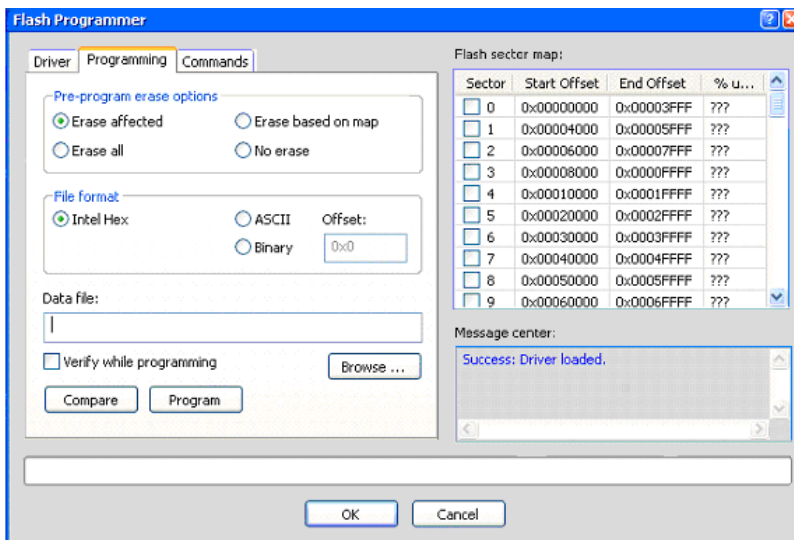

Figure 3-8. Flash Programmer Dialog box – Programming Tab
4. Click the **Programming** tab (Figure 3-8).